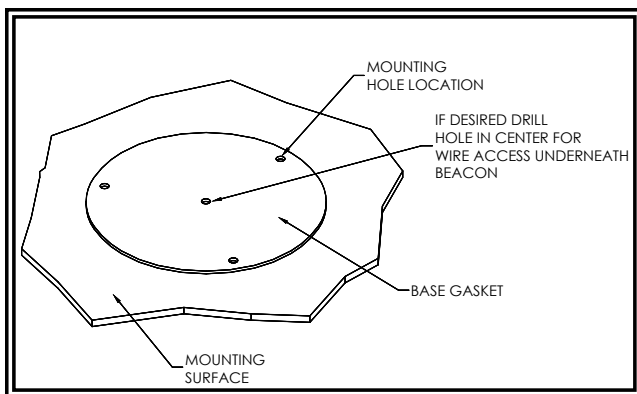

Figure 1
2. Using the base gasket as a template, mark the three mounting hole locations (see Figure 1).
4. A fourth hole (3/8") may be drilled for wire access as shown in Figure 1, or the wires may be routed through the knock-out in the base for external access. The wires may be routed through the included grommet.